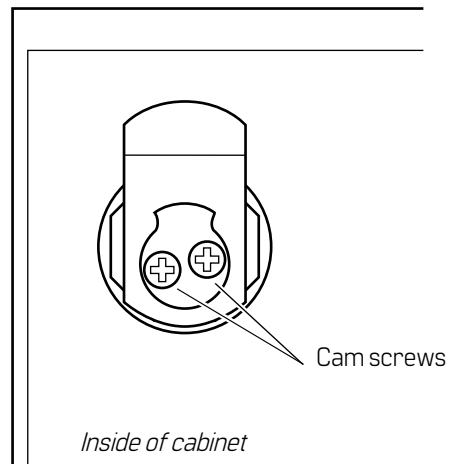

Figure 5.18 Reinstalling the cabinet cylinder (5E Series cylinder assembly shown)
- Secure the two cam screws to the back of the cylinder assembly. See Figure 5.18.